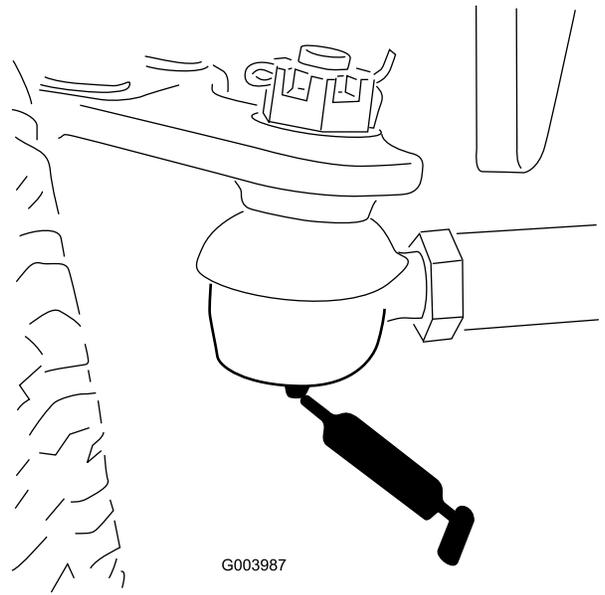

Figure 66
- Rear axle tie rod (2) (Figure 66)